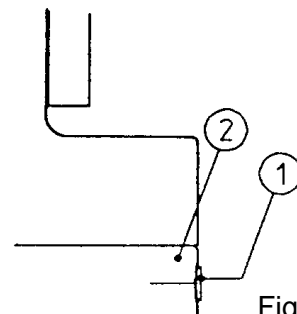

Fig. 17
- The flushing agent should be changed once a month or sooner if it is discolored. See Fig. 17
- Drain using the fixing plug (1)
- Flush the wet cup (2) with flushing agent